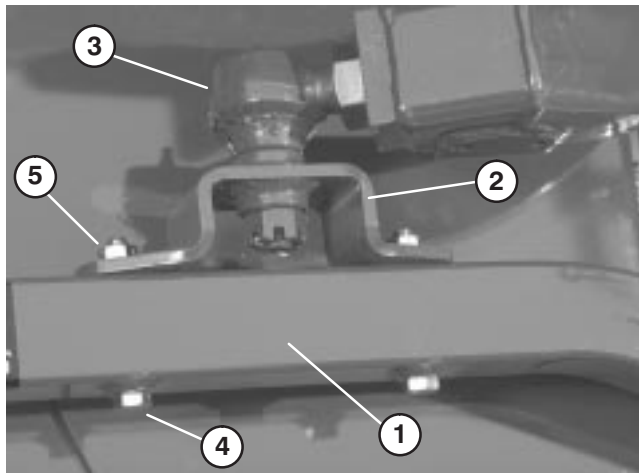

Figure 5
4. Secure ball joint mounts to each castor arm with (2) 7/16 – 14 x 3" lg. capscrews, and 7/16 – 14 flange nuts (Fig. 5).
5. Tighten large jam nut securing ball joint to lift arm (Fig. 5). When tightening jam nut, hold ball joint straight to permit proper oscillation during raising and lowering of cutting unit.